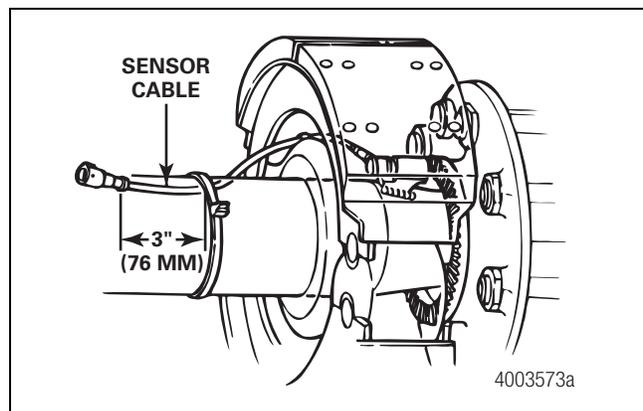

Figure 20
4. Route the sensor cable toward the brake chamber, over the brake spider or through the pre-stamped hole dedicated to ABS sensors. Route to the back side of the axle. Secure the cable to the axle between the brake spider and the suspension brackets. Continue to route the sensor cable behind the spring seats. Secure the cable to the axle one inch from the molded sensor plug. Figure 20.